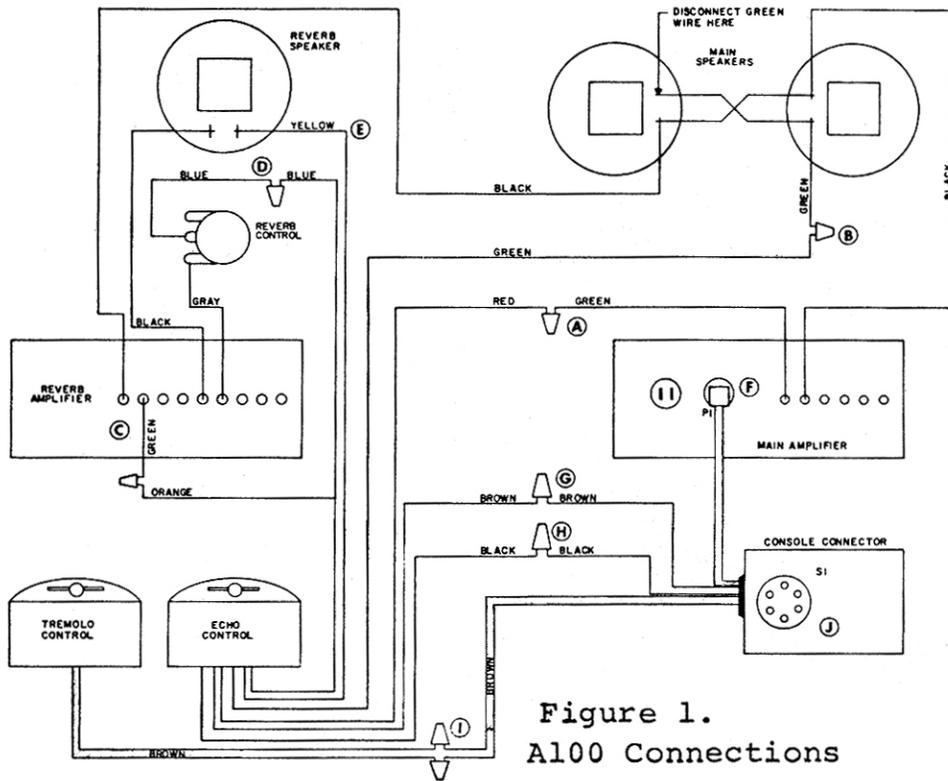
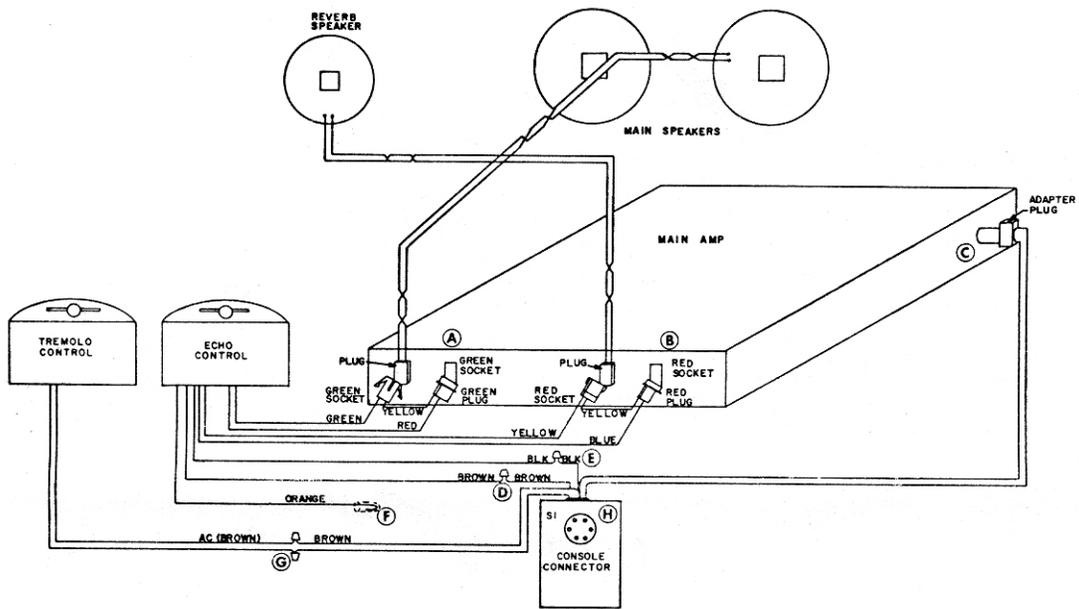

Figure 1.
Figure 3. E100 Connections
5. Cut the green lead which connects the amplifier output to the main speakers. (A & B on figures 1 & 2) Remove 3/8" of the insulation from each of the cut ends. Connect the amplifier end of this lead to the red lead from the echo control with a wire nut. Connect the speaker end of the lead to the green lead from the echo control. (B on figures 1 & 2)
6. Disconnect the reverberation input lead (green) from the main speakers. Strip and connect it to the orange lead from the echo control with the wire nut provided. (C on figures 1 & 2)
7. Detach the "hot" lead (gray or blue) from the reverberation speaker terminal, strip it about 3/8", and connect it to the blue lead from the echo control with the wire nut provided. (D on figures 1 & 2)
8. Solder the yellow echo control lead to the "hot" reverberation speaker terminal. (E on figures 1 & 2)
9. A100: Connect the plug from the console connector into the S-contact socket on the rear apron of the power amplifier chassis. (F on figure 1)
10. Connect the brown lead from the echo control to the short, single, brown lead\* from the console connector, with the wire nut provided. (G on figures 1 & 2)
11. Connect the black lead from the echo control to the black lead from the console connector, with the wire nut provided. (H on figures 1 & 2)
12. Connect the brown double wire from the tremolo control to the short, double, brown wire from the console connector, with the wire nuts provided. ("I" on figures 1 & 2)
5. Remove the green speaker plug from the chassis socket on the left-hand apron of the power amplifier. (A on figure 3) Fit this plug into the green interceptor socket on the echo switch cable, and fit the interceptor plug into the chassis socket.
6. Remove the red speaker plug from the chassis socket on the left apron of the power amplifier. (B on figure 3) Fit this plug into the red interceptor socket on the echo switch cable; then connect the red interceptor plug to the red chassis socket. Fold back the orange wire attached to the echo switch and insulate it with electrical tape. It is not used in this installation.
7. Connect the plug from the console connector to the 062091 adapter and insert the adapter into the 7-contact socket on the rear apron of the amplifier chassis. (C on figure 3) B. Connect the brown lead from the echo control to the brown lead from the console connector with the wire nut provided. (G on figures 1 & 2)
9. Connect the black lead from the echo control to the black lead from the console connector with the wire nut provided. (H on figures 1 & 2)
10. Connect the brown wire from the tremolo control to the short wires on the console connector with the wire nuts provided. ("I" on figures 1 & 2)